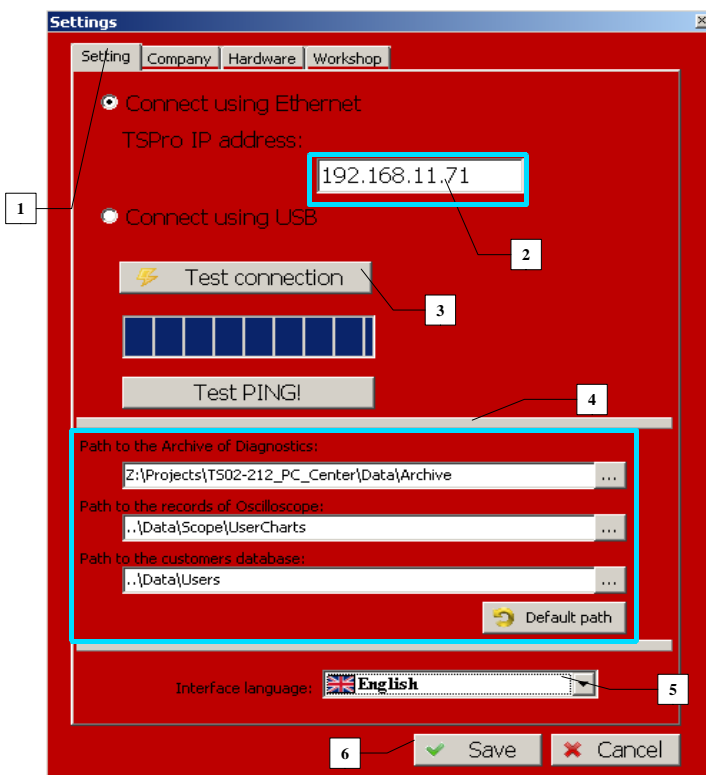

Figure 4.2
The MainBar is used not only for starting individual applications, but also for overall settings of them. If you click the Settings icon (3) you can see Settings window (Figure 4.2), where you can perform all important settings of programs. In the first tab you can select the way of connecting to the Troodon interface (1), set its IP address (2), perform a connection test (3), set the paths to folders where diagnostic data are stored (4) and select the language (5). The second tab allows you to set some informations about you or your company. This informations will be printed in the heading of every diagnostic protocol.
These are the folders where the data you have saved are stored. They are used by the Archive application, in which you can manage your stored data. By default, the paths are set to the folder where the PC Center program is installed. You can change it by inputting a different path in the textbox (Figure 4.2 - 4)